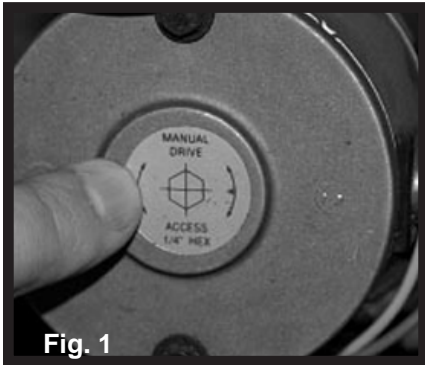

Fig. 1
1. Remove protective label. (See Fig 1).